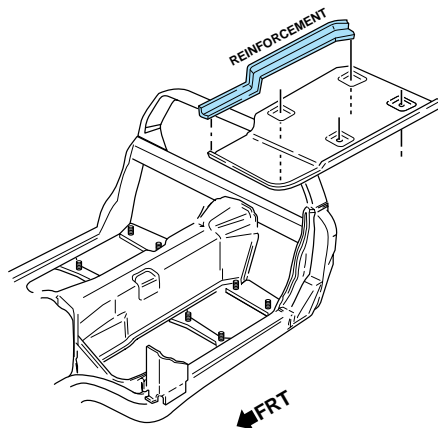

Fig. 3.45 — Reinforcement Bonded to Tunnel and Floor
- 4 Remove the side reinforcement bonded to the floor panel and the tunnel area (Fig. 3.45). **NOTE:** Use care when removing the reinforcement, if damaged during the removal process replacement will be necessary.